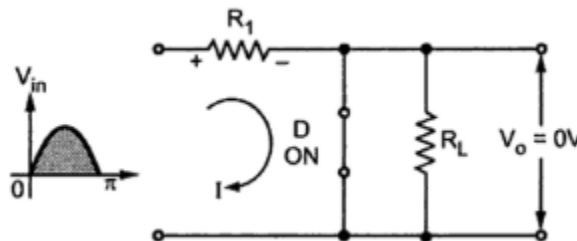

Fig. 1.59 Operation during positive half cycle
- As R_L is in parallel with diode no current flows through it and output voltage $V_o = 0V$ as shown in the Fig. 1.59